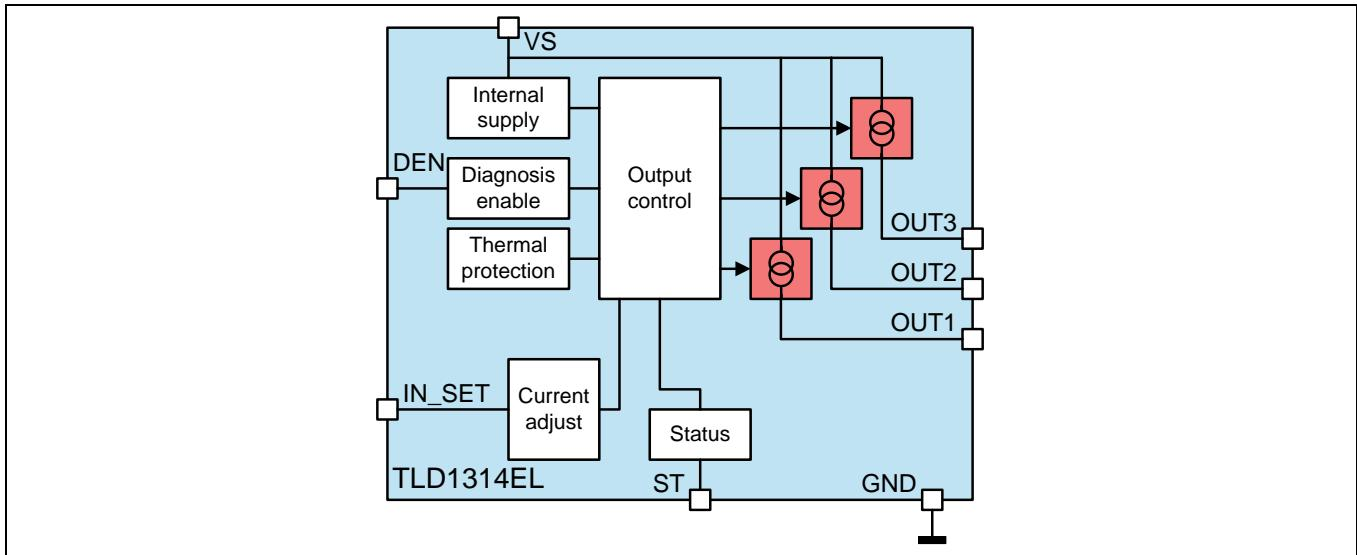

Figure 3 Block Diagram of LITIX™ Basic device with DEN pin (TLD1314EL)
Figure 3 shows the block diagram of the LITIX™ Basic family member TLD1314EL. This device has 1 input (IN\_SET), 3 outputs (OUT1, OUT2 and OUT3), diagnostic enable input (DEN), status (ST), supply (VS) and ground (GND) pins. The exposed pad of the package should also be connected to ground in the application. The diagnostic enable (DEN) pin can be used to disable the diagnostic indication of the ST pin in cases of low supply voltage or other application conditions where suppression of the ST diagnostic is desired.